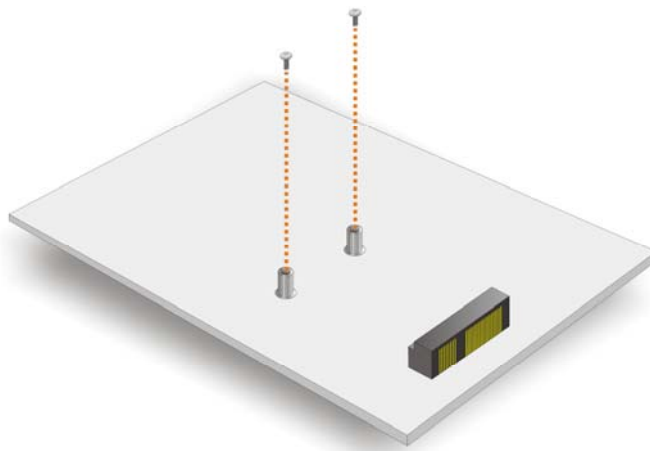

Figure 4-8: Remove the Retention Screws for the mSATA Card
Step 2: Remove the retention screws. Remove the two retention screws secured on the motherboard as shown in **Figure 4-8**.